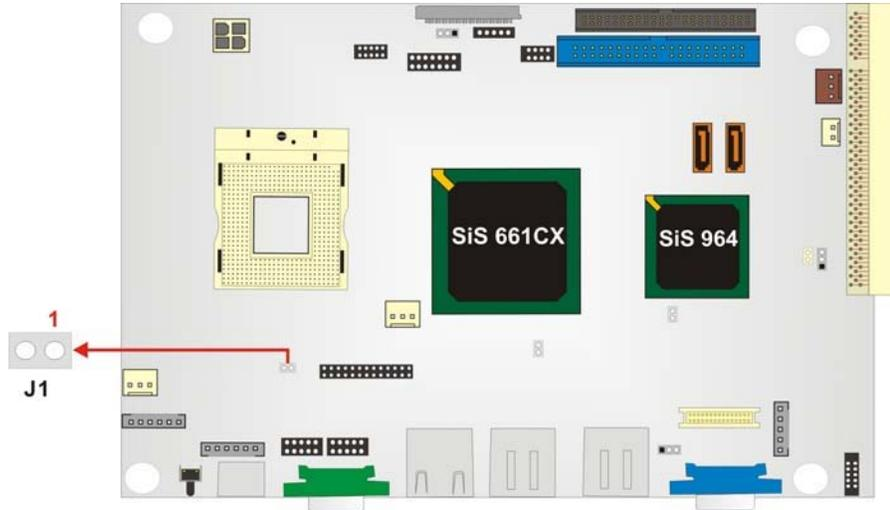

Figure 3-31: J1 Location
- Jumper Settings:** See Figure 3-31
The CPU Frequency Setting jumper is location is shown in **Figure 3-31**.